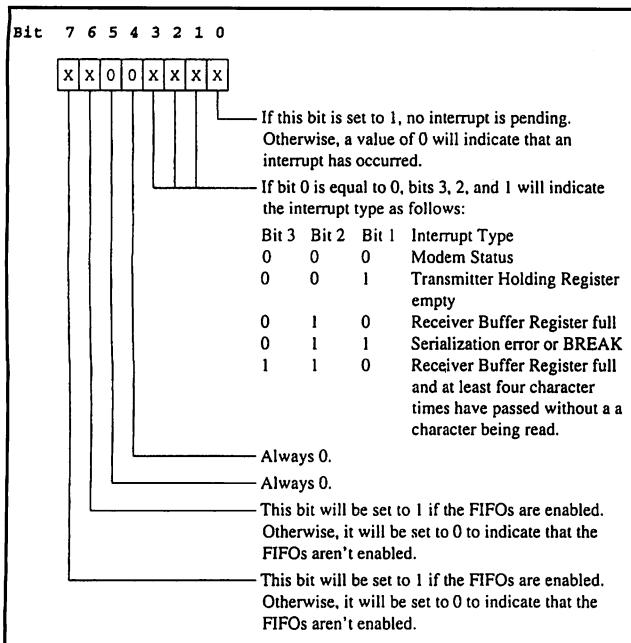

Fig. 6. Interrupt-Identification Register for 16550.
• **Interrupt-Identification Register.** This register is located at 0x3FA and is used to determine what interrupt has occurred. The 8250 version of this register is shown in Fig. 5. Note the ability of this register to enable or disable the FIFOs (first-in, first-out) for the 16550 in Fig. 6. In the 8250, this is a read-only register. In the 16550, you can also write to this register to set FIFO operation. When writing to this register, use address 0x3FA.